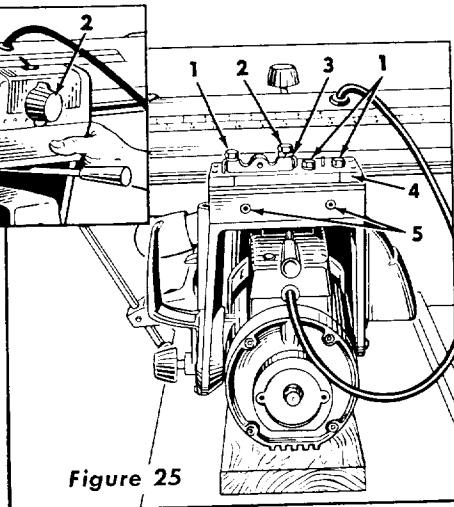

Figure 25
4. Loosen 3 hex head machine screws (Item 1, figure 25), eccentric hold-down screw (Item 2, figure 25) and two adjusting set screws in the holes on the side of the carriage (Items 5, figure 25). Use 1/8 hex "L" wrench on set screws.
5. Rotate eccentric bushing (Item 3, figure 25) clockwise to obtain snug fit. The ball retainer assembly (Item 4, figure 25) should be guided at both ends by hand to prevent cocking.